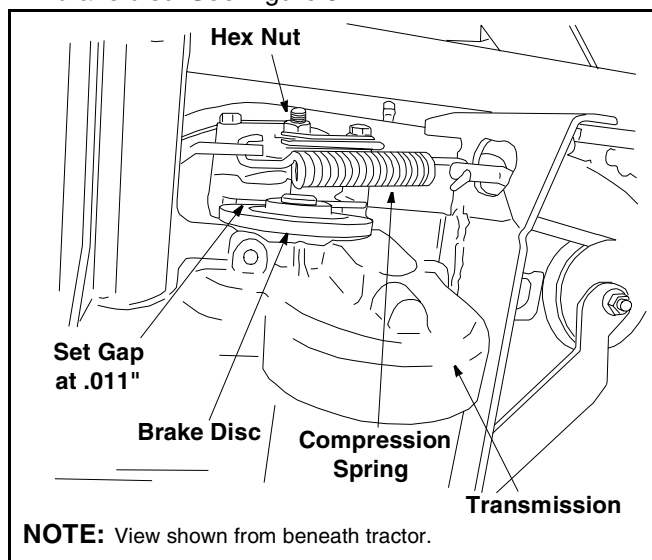

Figure 6
- Looking at the transmission from the right side of the tractor, locate the compression spring and brake disc. See Figure 6.
- Loosen, but do **not** remove, the hex nut found on the right side of the brake assembly. See Figure 6.